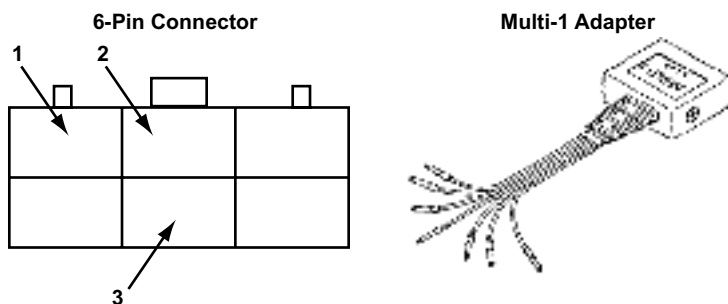

Figure 6-1 Engine connector and MULTI-1 adapter (Auto Code Read)
- Connect the MULTI-1 adapter with black terminal converters to the 6-pin connector as shown in Figure 6-1.